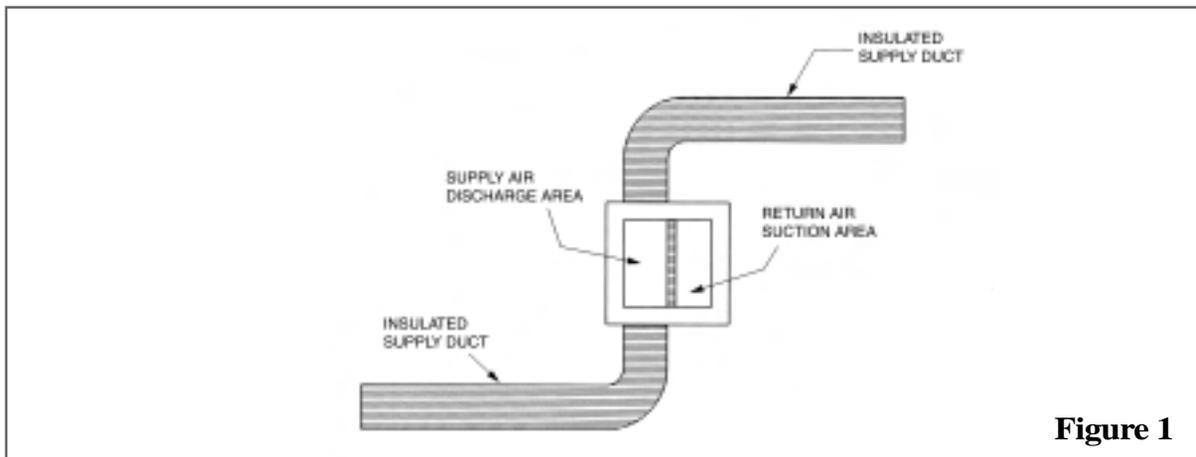

Figure 1
- 1 The field fabricated supply ducting must attach to both sides of the ceiling assembly frame. A minimum of two ducts are required, with one duct attached to each side of the ceiling assembly frame. See Figures 1 and 2 for both an overhead view of the system with ducts and a ceiling assembly/ceiling cavity installation.